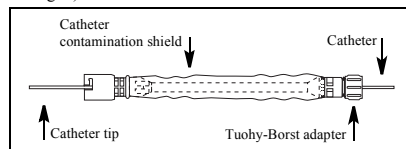

Fig. 3
5. Insert tip of desired catheter through Tuohy-Borst adapter end of catheter contamination shield. Advance catheter through tubing and hub at other end (refer to Fig. 3).